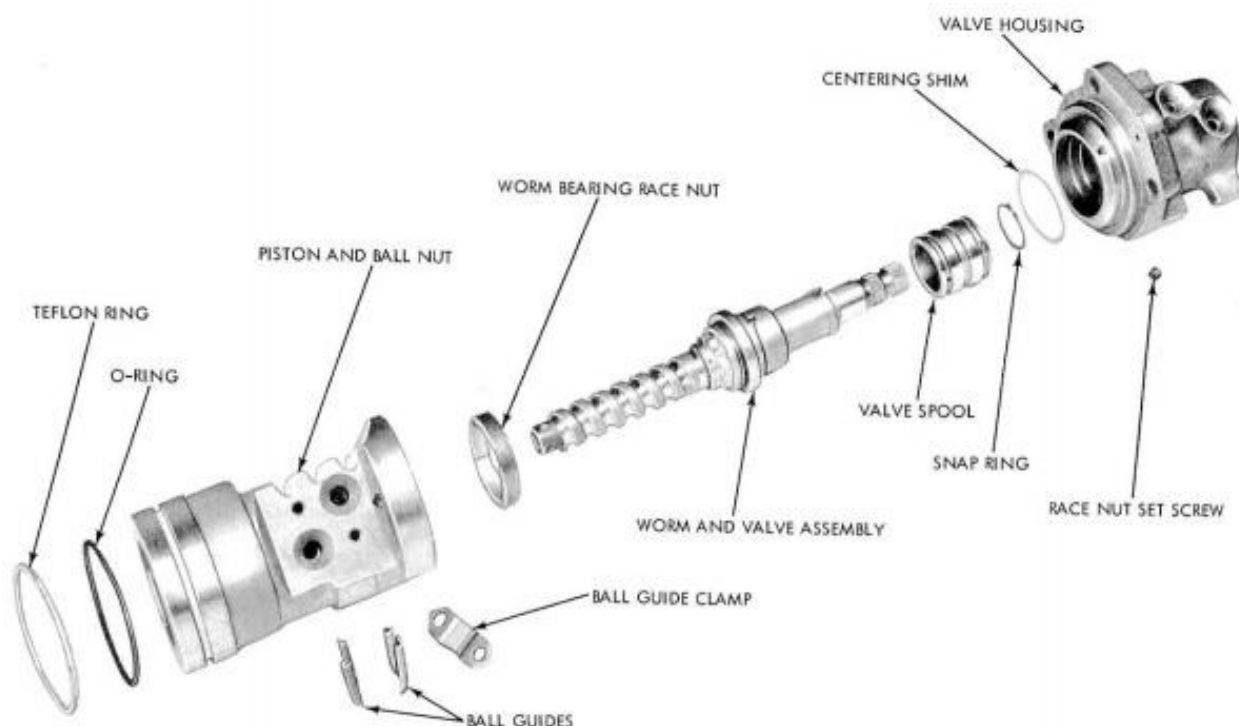

FIG. 14—Ball Nut and Valve Housing Disassembled
11. Remove the two screws that attach the ball guide clamp (Fig. 14) to the ball nut and remove the clamp and the guides.
2. Slide the control valve spool (Fig. 14) off the actuator.
1. Remove the teflon ring and the O-ring (Fig. 14) from the piston and ball nut.
2. Place the required thickness valve spool centering shim (Fig. 14) in the housing. Use one shim only.